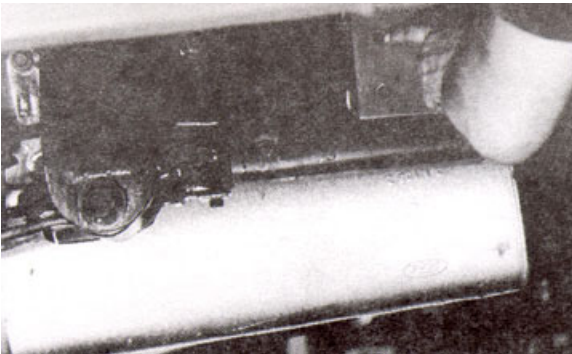

Figure 7-7.
11. Mark the front mounting plate holes. Use four holes per side. Space between the mounting brackets and the frame if necessary. (See Figure 7-7.)